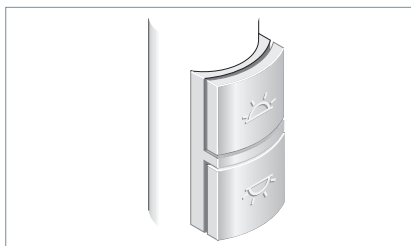

Fig. 14: Operating element with separately operated light (standard).
- Operating element with separately operated light (standard), see Fig. 14
- Press the upper switch, see Fig. 14.
- Press the lower switch, see Fig. 14.
- Press the upper switch and keep it depressed, see Fig. 14.
- Press the lower switch and keep it depressed, see Fig. 14.